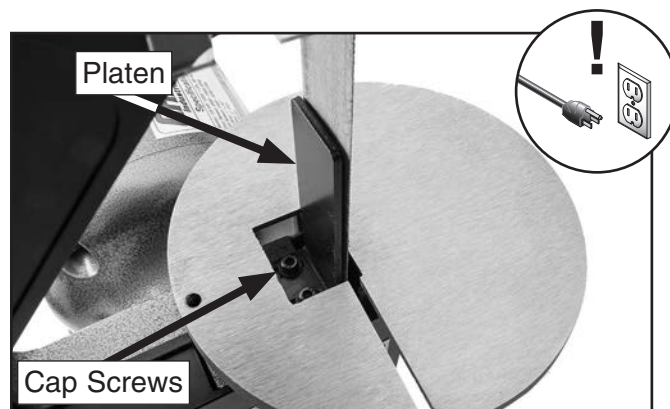

Figure 23. Location of platen and cap screws.
2. Loosen cap screws located behind platen as shown in **Figure 23**.